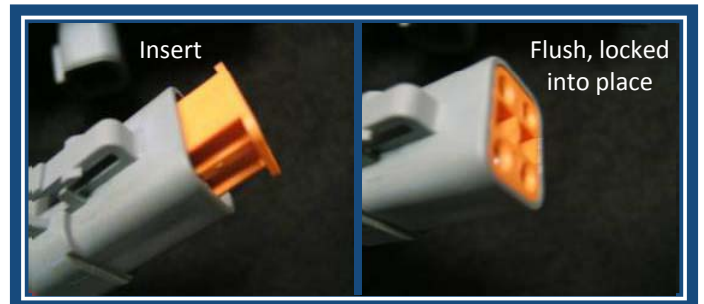

Figure 8
Step 8: Locate the orange lock from the bag kit and insert into the Deutsch connector. Make sure that the lock is pushed in flush with the end of the connector and locked into place. (See Figure 8)